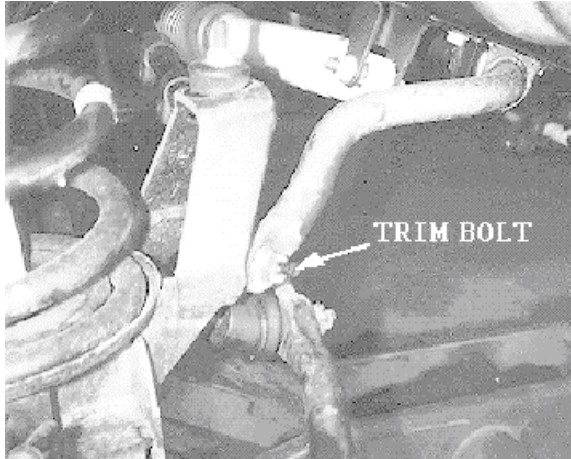

fig. 13
37. Re-install the front wheels and tires you will use with the kit. Allow front suspension to go to full droop. Have an assistant hold the steering wheel to full left while you inspect if the sway bar end link bolt makes contact with right hand tire. **Refer to fig. 13.** On newer vehicles the sway bar has been redesigned and bolt clearance is not a problem.